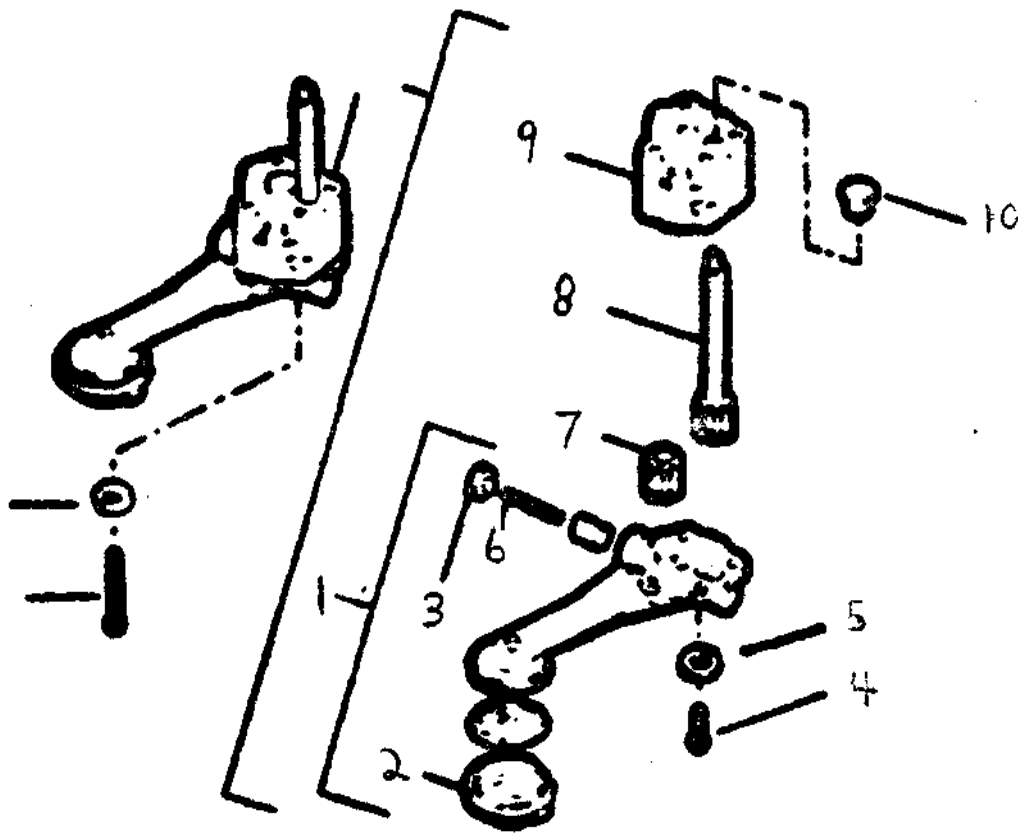

Figure 1 Oil pump assembly
3.6 Torque standards.- The following Table lists the torque standards that shall be used when rebuilding the VW 1.7 litre engine oil pump, see Figure 1 for component identification.